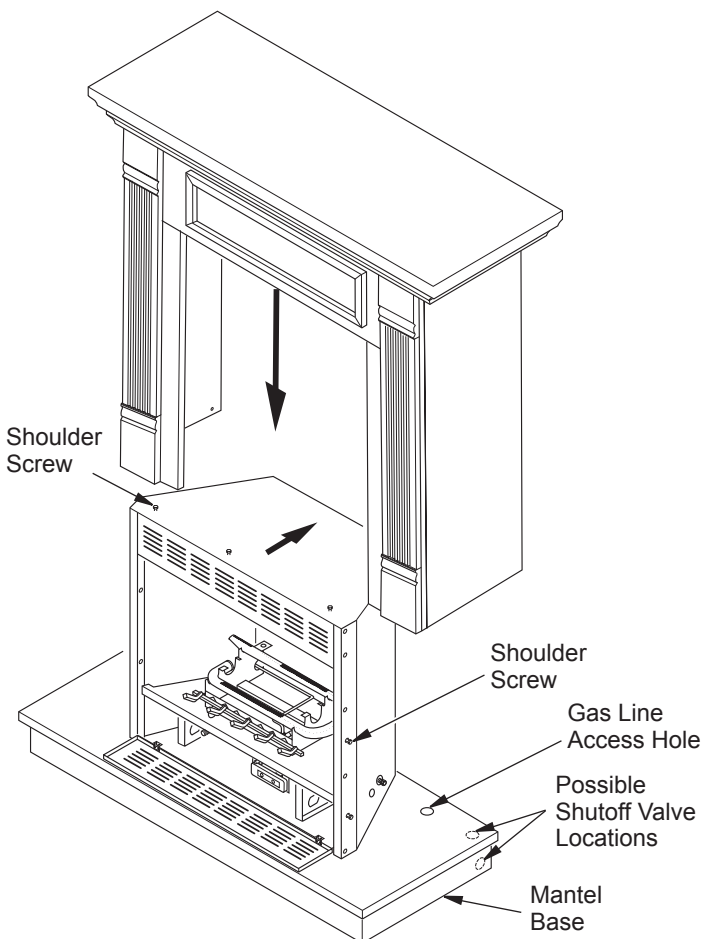

Figure 6 - Installing Fireplace with Flange
2. With assistance, carefully place mantel over fireplace (see Figure 6). Fireplace nailing flanges will be to the inside of mantel. Align mantel over threaded holes in base. Make sure back of mantel is flush with back of mantel base. Adjust fireplace as necessary.